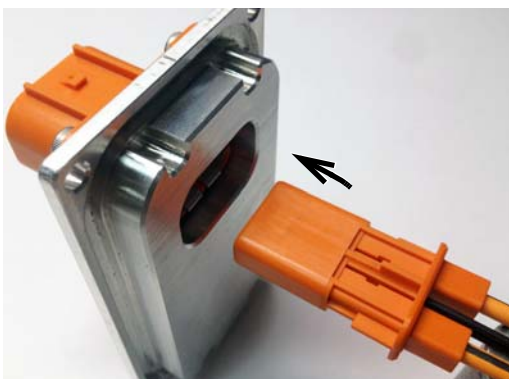

Figure 7
4. Insert the inner housing (with the contacts) into the outer housing subassembly until there is an audible or tactile “click”. See Figure 7.